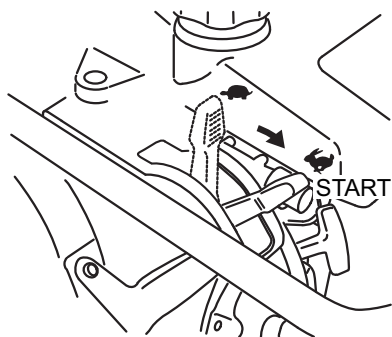

Figure 14. Throttle Lever (Start Position)
1. To start the rammer tamping action, move the throttle lever (Figure 14) **quickly** from **IDLE** (→) to the **START** (↗) position. **DO NOT** move the throttle lever slowly as this may cause damage to the clutch or spring.